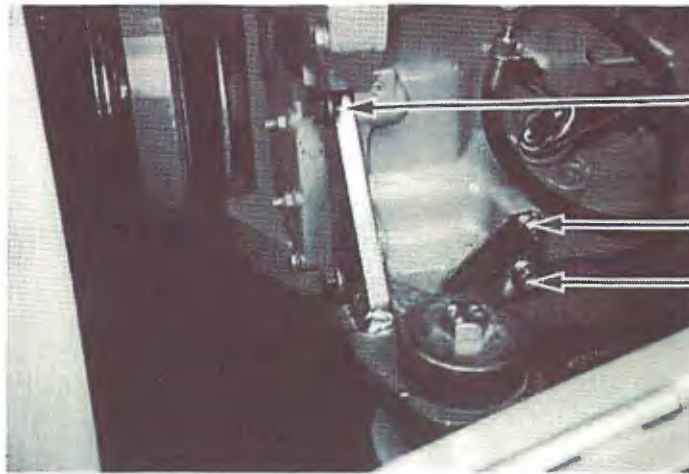

Figure 2
3. Remove bracket for intercooler line support if used. Remove top engine mount bolt. See figure 2.